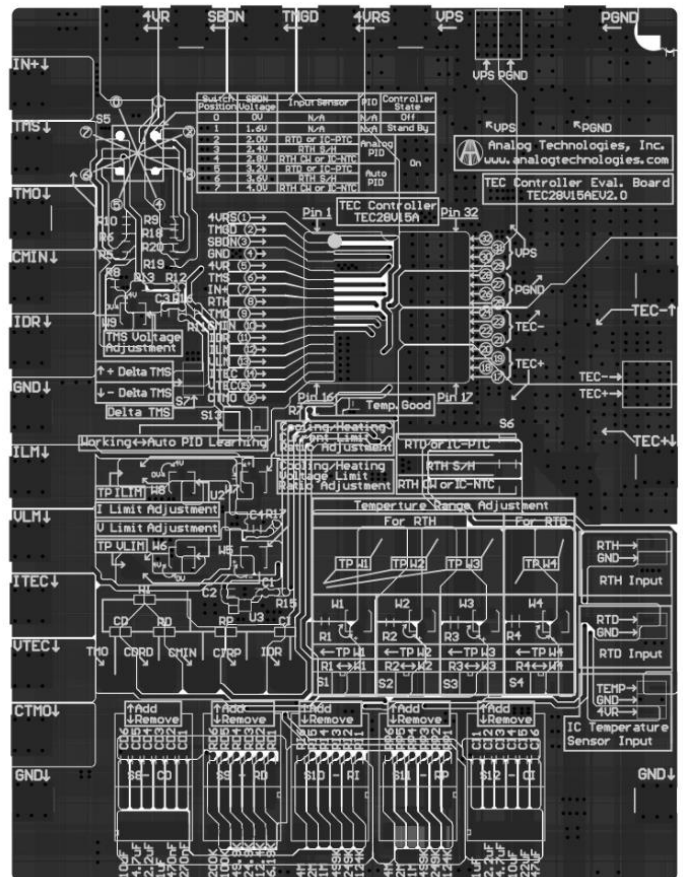
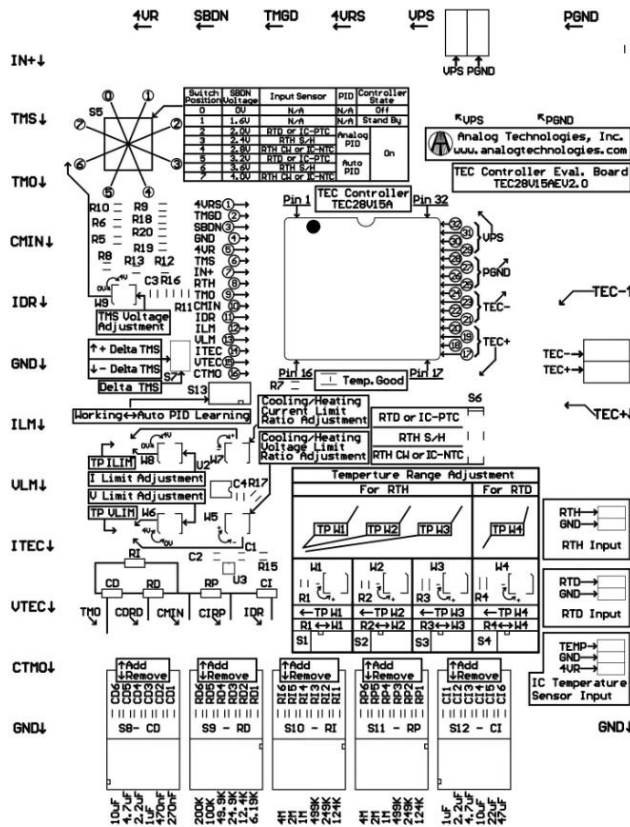

Figure 2. Top Silkscreen Layer with Other Top Layers
Figure 6. Top Silkscreen
The silkscreen layer of the evaluation board is shown in Figure 2 with other top layers, including top silkscreen, top copper, top solder mask, and multilayer (vias). Figure 6 only shows the image of top silkscreen layer. There is no component in the bottom side of the board, so that there is no bottom silkscreen layer image.
There are 3 terminal blocks also located on the left, top and the right side of the board, their connectors are for the same nodes of the solder pads. See the silkscreen image in Figure 6.
3. After tuning, the values of the capacitors for C_D and C_1 can be read off the capacitor selection switches. The values of the resistors, R_I , R_d and R_P , can be measured by an Ohmmeter by connecting to the resistor pins. As seen in the photo of Figure 6, R_I can be read off between TMS and CMIN test points; R_D can be read off between CMIN and CDRD test